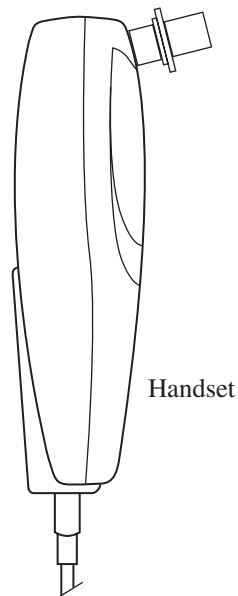

Figure 1
- Make sure the mouthpiece is inserted properly as shown in Figure 1.